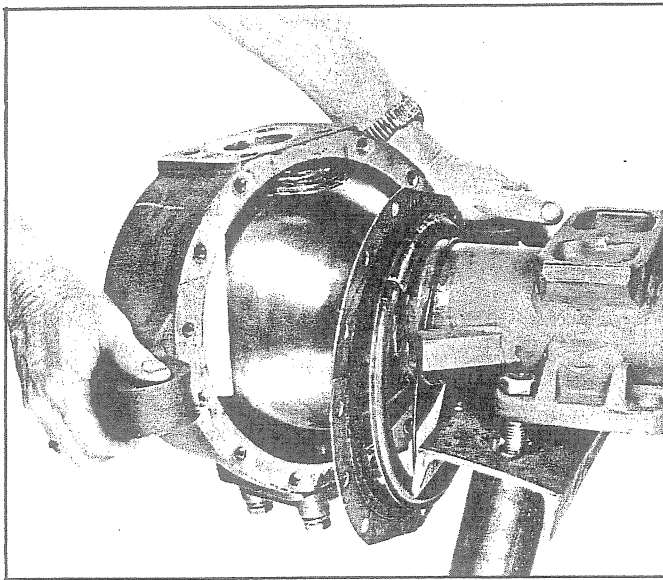

Fig. 86 - Removing Spindle Support
17. Carefully remove the spindle support as shown in Fig. 86. Then, if desired, remove lower trunnion and bearing from spindle support.